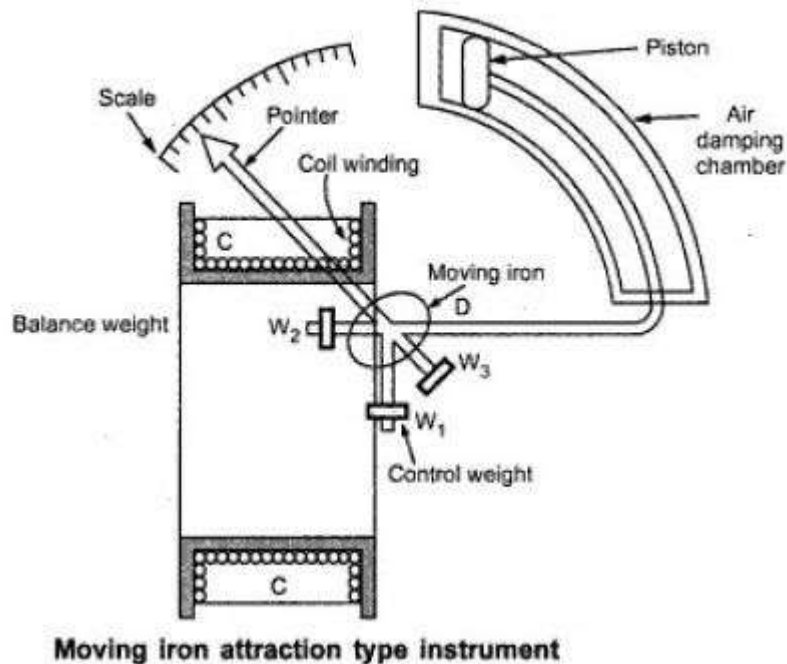

Figure 9.2
2. **Attraction** (or single-iron) type (figure 9.2)